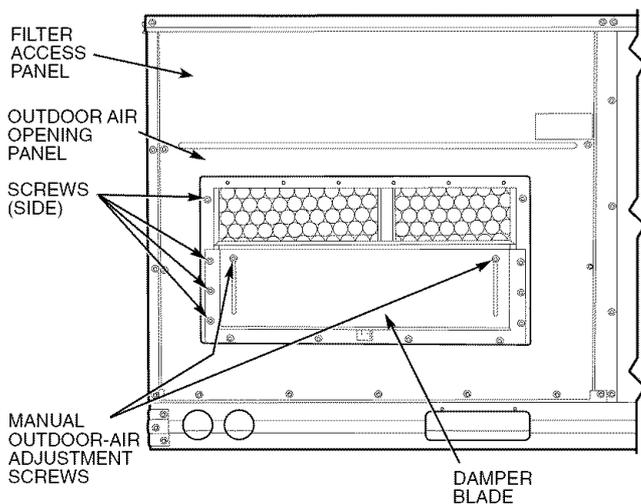

Fig. 15 — Damper Panel with Manual Outdoor-Air Damper Installed
2. Remove filter access panel by raising panel and swinging panel outward. Panel is now disengaged from track and can be removed. No tools are required to remove the filter access panel. Remove outdoor-air opening panel. Save panels and screws. See Fig. 15.